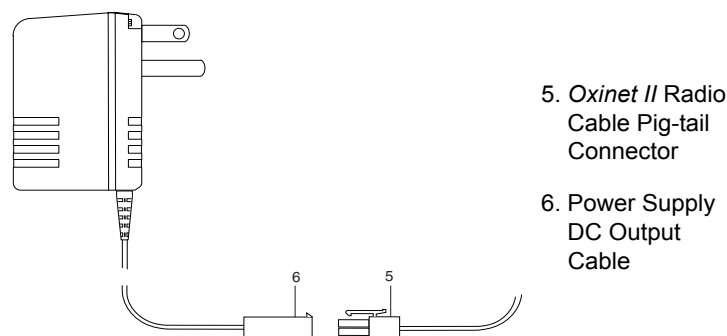

Figure 30: Radio Power Connection
4. Connect *Oxinet II* radio cable pig-tail connector (Figure 30, item 5) to radio power supply DC output cable (item 6).